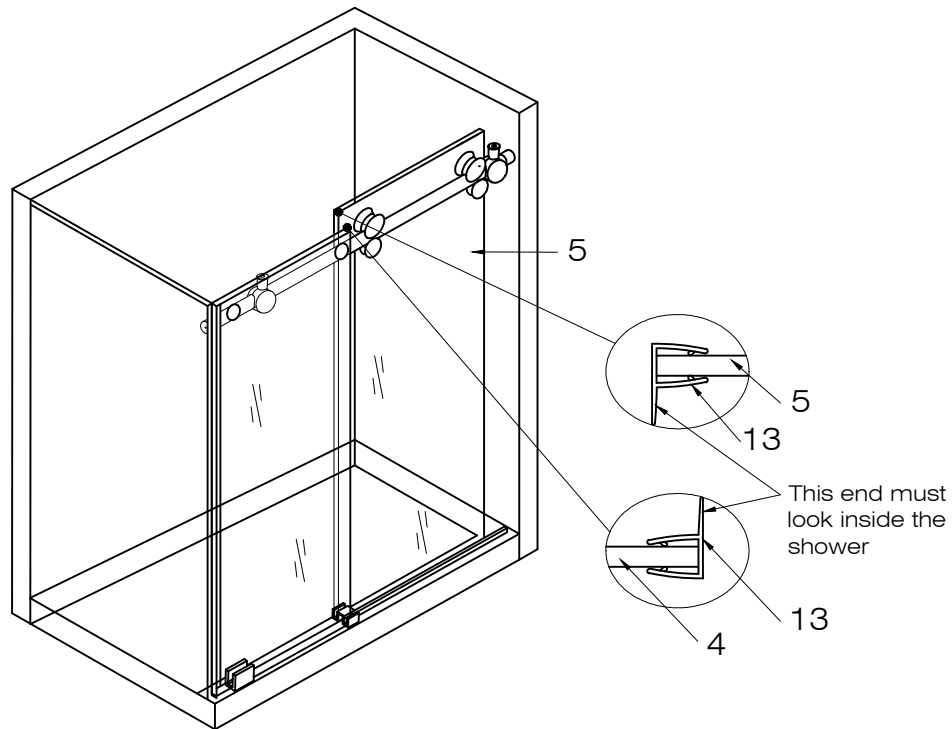

FIG. 13
1. Place the seal strip (#13) to the door and to the fixed panel, respectively. [SEE FIG.13]